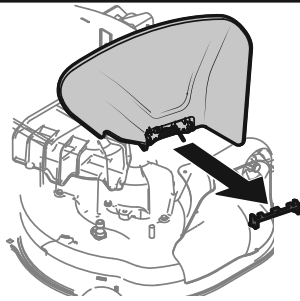

Figure 11
2. Lower the chute deflector and discard the shipping brace. See Figure 11.